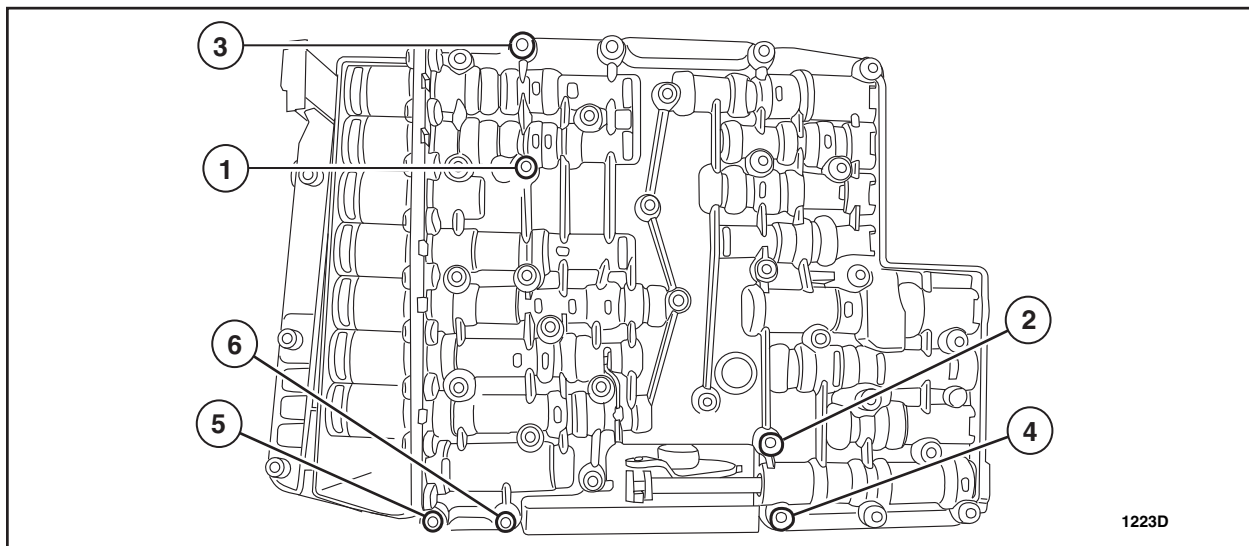

FIGURE 6
9. Tighten the long bolts to 6 Nm (53 lb-in) in the sequence shown. See Figure 6.